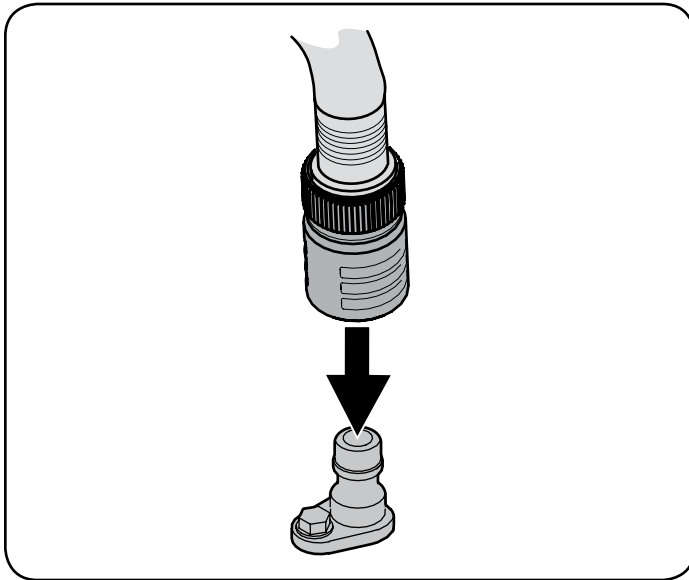

Figure 17
4. Attach the hose coupler to the water port on your deck surface. See Figure 17.